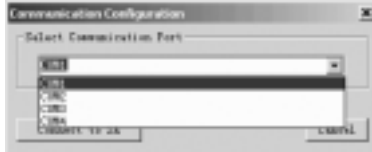

Fig. 4.18 Set Up Port and Baud Rate
b. Open application software Super CAD, set up a new document, then open computer com. Click option “Configuration” under menu “Com” with left button of the mouse, or click “” in toolbar, dialog box shown as Fig. 4.18 appears, then select your communication port and speed.
- b. Open the port of computer, click option “Configuration” under menu “Com”, or click “” in toolbar, dialog box shown as Fig. 4.18, select your communication port and speed.